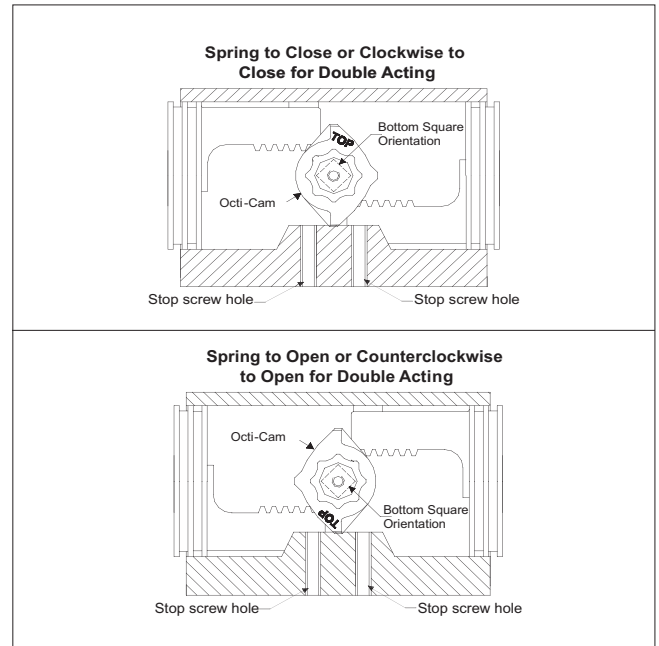

Figure 11. (Looking from above)
- D. Ensure that the octi-cam (1) is in the correct position with respect to the stop screw holes as shown by (Figure 11).
THE LOCK OUT FEATURE CAN BE RENDERED INEFFECTIVE BY A MIS-ALIGNED OCTI-CAM (SEE FIGURE 11) WHICH COULD CAUSE DAMAGE TO EQUIPMENT OR PERSONAL INJURY! FUNCTIONAL TESTING IS RECOMMENDED ON INITIAL INSTALLATION OF LOCKING DEVICES AND AFTER ANY SERVICE OR REPAIR TO CONFIRM THE EFFECTIVENESS OF THE LOCK OUT FEATURE.